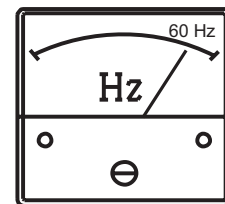

Figure 58. Frequency Meter
4. The **frequency meter** (Figure 58) displays the 60-cycle output frequency in **hertz**.